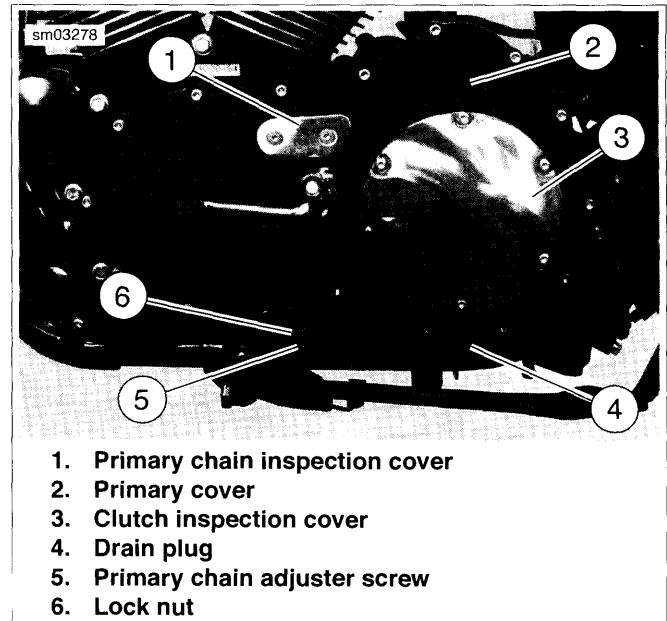

Figure 1-43. Primary Cover: All Models (XL Model Shown)
See Figure 1-43. Check the primary chain for correct tension by measuring its vertical free play through the primary chain inspection cover (1) opening located near the top of the primary cover (2).
See Figure 1-43. The primary chain can be adjusted without removing the primary cover (2). Proceed as follows:
2. Remove two hex socket screws securing primary chain inspection cover (1).
5. See Figure 1-43. When tension is set correctly, hold chain adjusting screw with allen wrench and tighten lock nut (6) to 20-25 ft-lbs (27.1-33.9 Nm).
6. Install primary chain inspection cover (1) and **new** gasket. Tighten hex socket screws to 84-120 **in-lbs** (9.5-13.6 Nm).